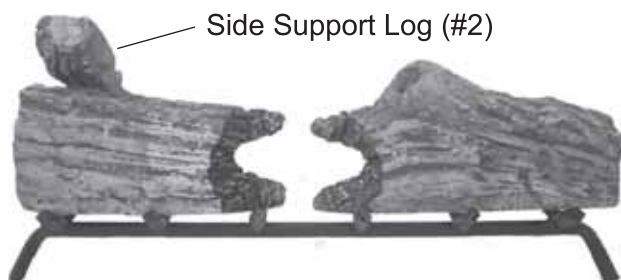

Figure 115 - Placing Side Support Log (#2) on Top Left of Log #1A
4. Place front end of Side Support Log #2 on top left of Log #1A. Rest other end of Log #2 on rear grate bar. *See Figure 115.*